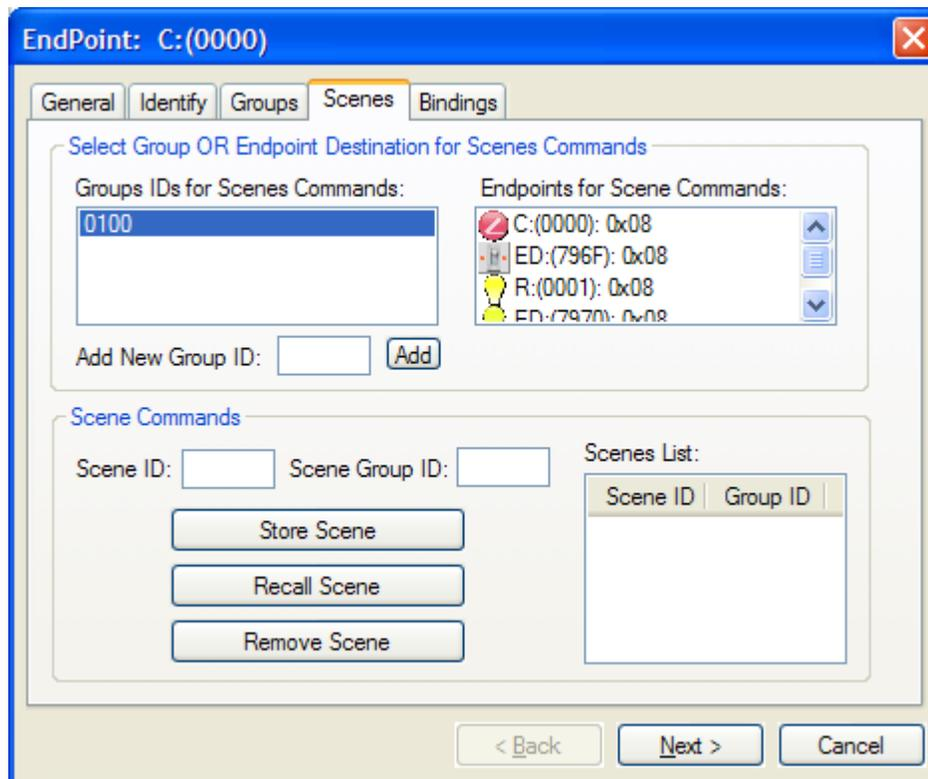

Figure 4-25. The Scenes Tab
2. Choose the Scenes Tab as shown in Figure 4-25.